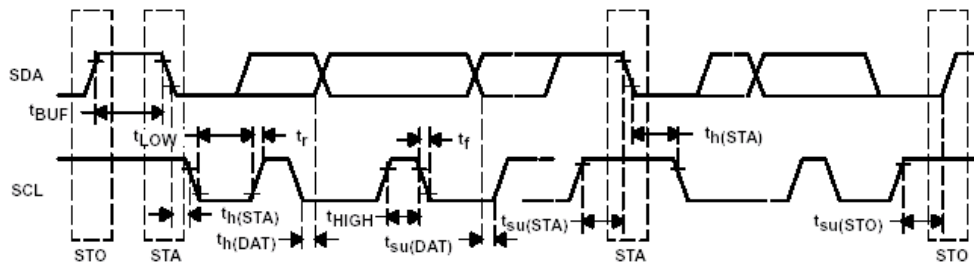

Figure 6. I2C Interface Timing Diagram
**8.16 I2C Interface Timing (see Figure 6)**